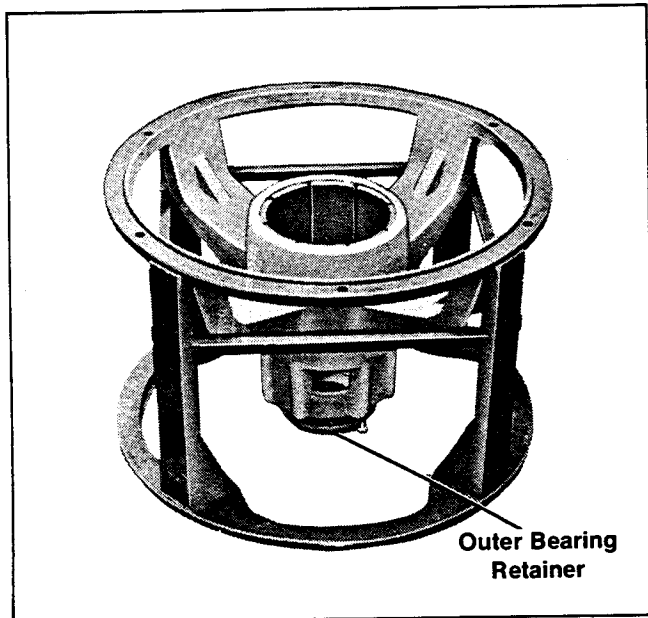

Figure 5-9. Cradled End Bracket
1. Place end bracket in suitable cradle as shown in Figure 5-9. Be sure outer bearing retainer or snap ring is in position. Outer bearing retainer, if so equipped, should be in position with bolts in place.